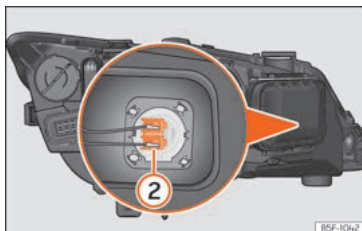

Fig. 112 Main beam headlight bulb.
- Slide connector » **Fig. 112 ②** to the left or right and pull.